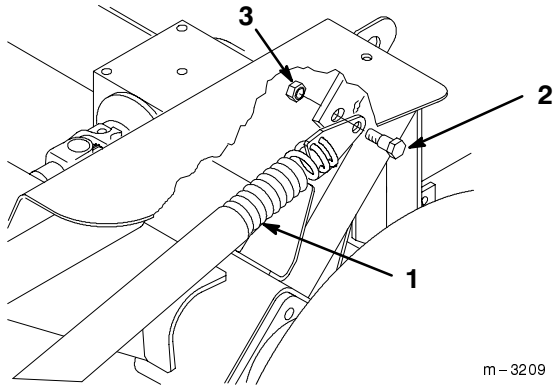

Figure 11
4. Remove 3/8" x 7/8" (23 mm) shoulder bolt and 3/8" locknut securing spring end plate assembly to carrier frame (Fig. 11).